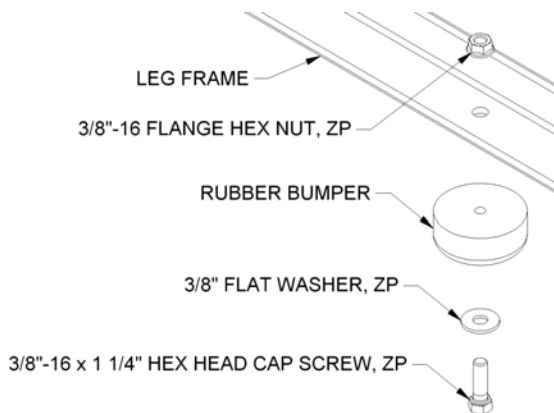

FIGURE: 1
1. Attach four rubber feet (bumpers) on the bottom of each leg as shown in figure 1.